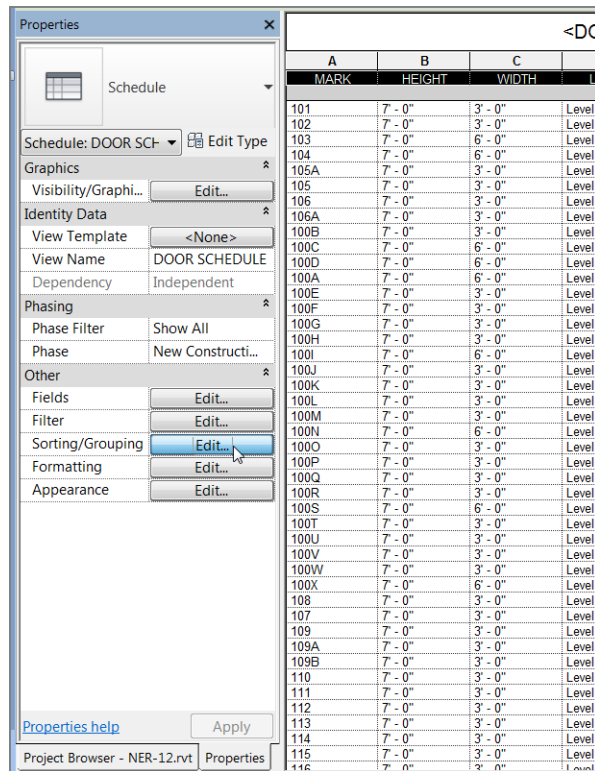

FIGURE 11.6: Click the Edit button in the Sorting/Grouping row.
5. In the Properties dialog box is an Other category. Here you can return to the Schedule Properties dialog box. Click the Edit button in the Sorting/Grouping row, as shown in Figure 11.6.